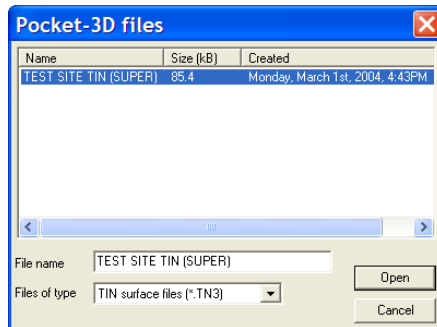

Figure 5-2. Select and Open Pocket-3D TIN File
3. On the *Pocket-3D files* dialog box, select the file to import and press **Open** (Figure 5-2 on page 5-3). The file type is automatically selected.